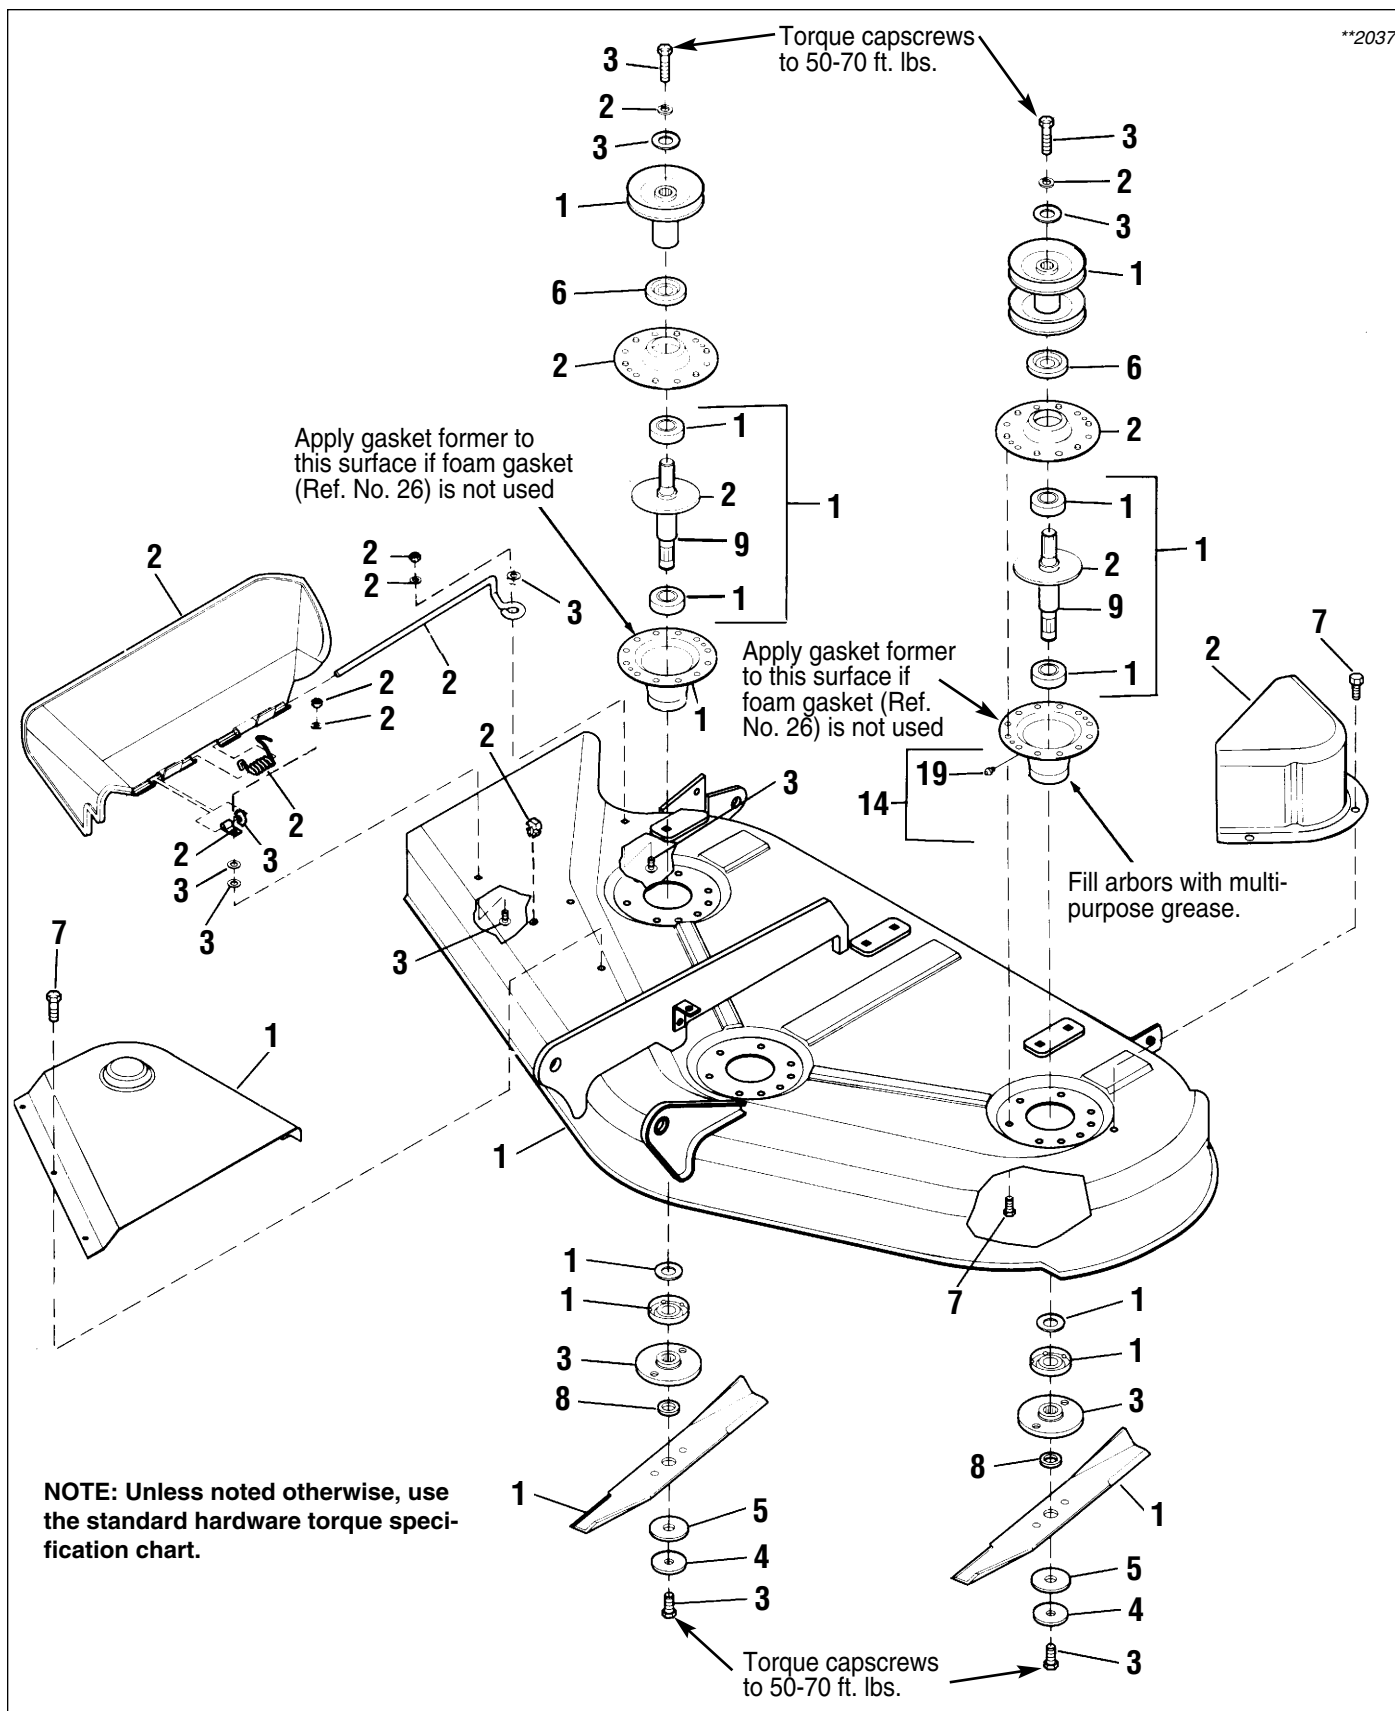

Figure 4. 44" Mower Deck - Housing, Arbors & Blades
6. Turn wheels straight ahead. Pull back on spring-loaded lever (B, Figure 4) and lift mower hitch off of the tractor brackets.